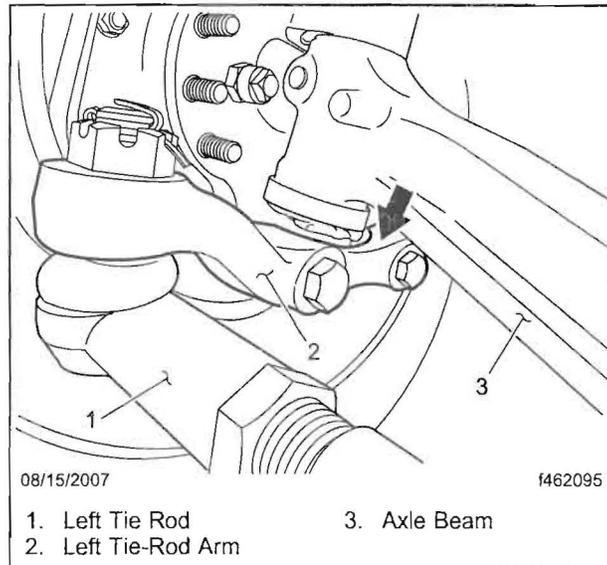

Fig. 1, Part Number Location, Left Tie-Rod Arm
- 5.1 Turn the steering wheel one turn to the right. This will expose the top surface of the left tie-rod arm, where the raised part number is located. See **Fig. 1**.